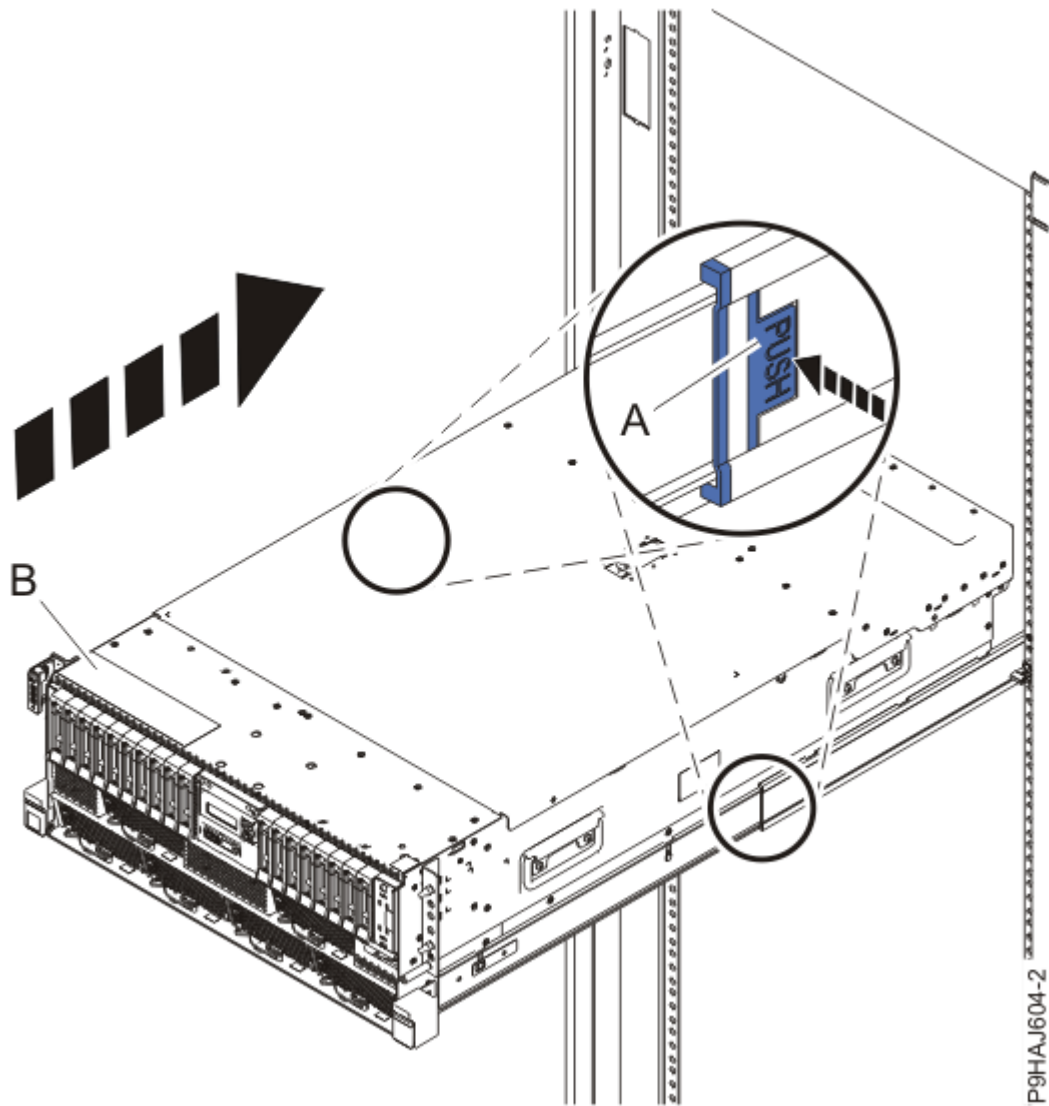

Figure 131. Pushing the system into the rack
4. Unlock the blue rail safety latches **(A)** as shown in Figure 131 on page 132 by pushing them inward. Carefully push the system unit until it is 2.5-5 cm (1-2 in.) away from the rack.